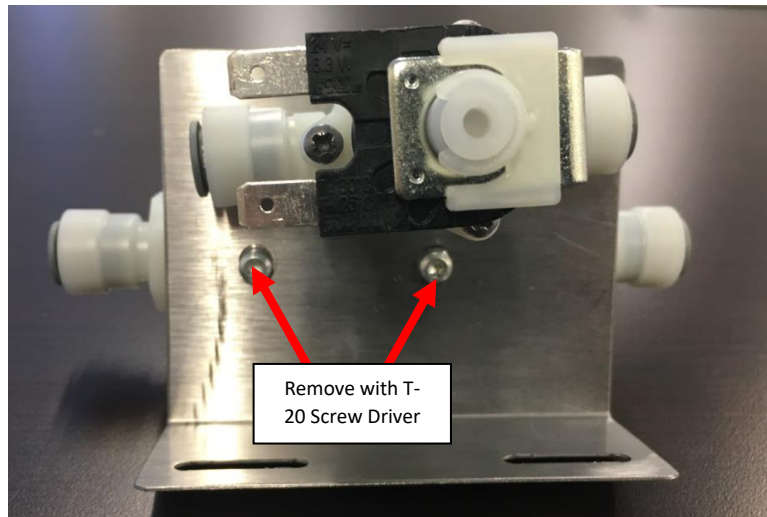

Figure F3: Screws Shown.
4. Remove the Solenoid Flowmeter Module from the bracket by removing the two screws and split washer holding it in place with a T20 Drive Screwdriver. See **Figure F3**.